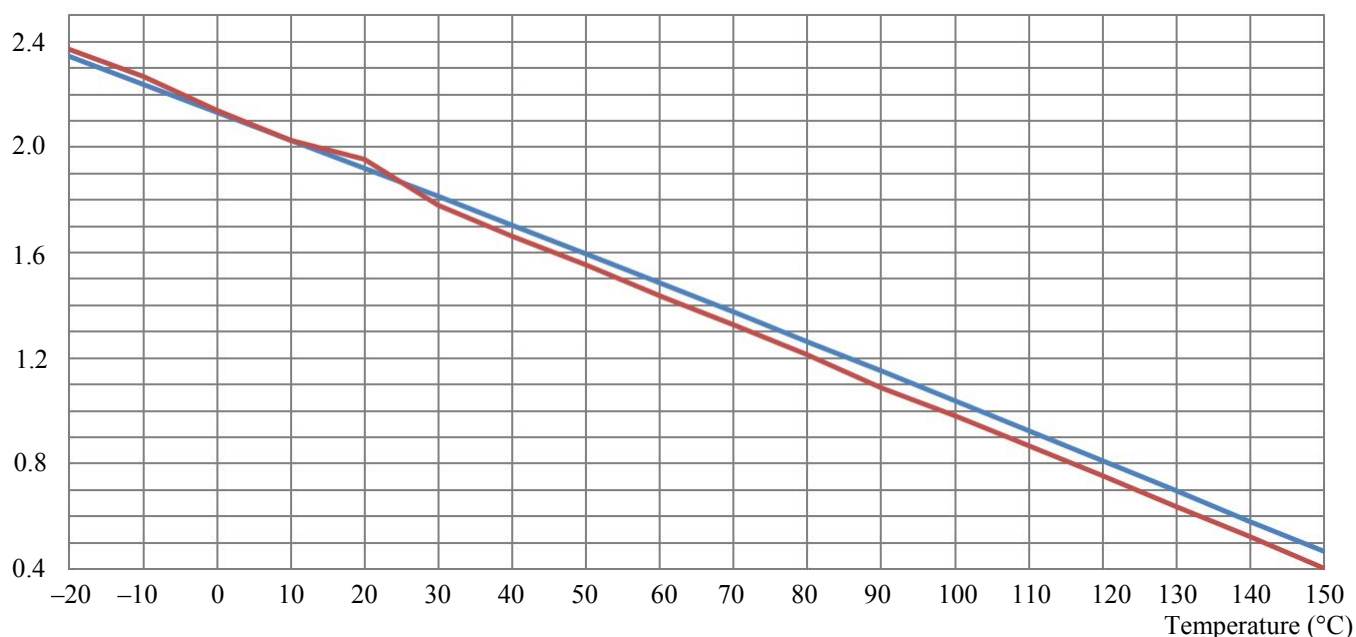

Figure 16. Controller Internal Temperature vs. TMPO Voltage
Within the most commonly used temperature range of between 0°C to 100°C, the maximum error occurs at about 1.5V, at which the temperature error between the calculated data by using the formula (1) and the approximated data obtained by using the linear equation (2) is about 0.4°C, with the linear data being a little lower. The curves of the 2 sets of the data are plotted in Figure 16.